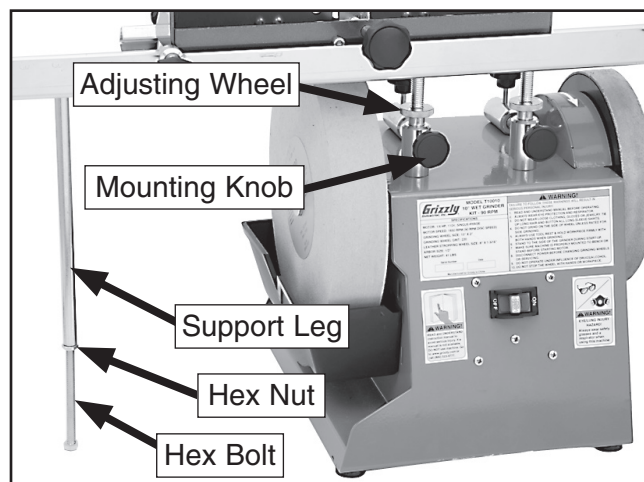

**Figure 8.** Support leg adjustment.
10. Adjust the M8-1.25 x 100 hex bolt so that it touches the bench surface and slightly supports the jig, then secure it by tightening the thin M8-1.25 hex nut against the support leg (**Figure 8**).